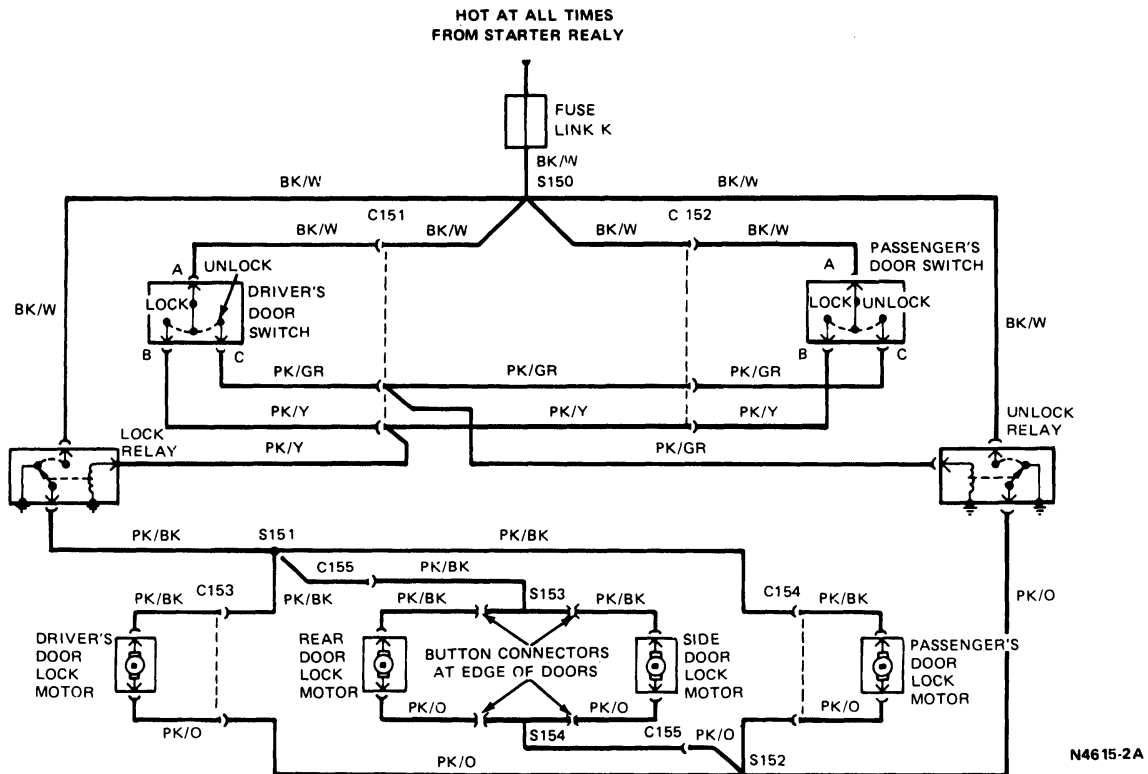

FIG. 2 Power Door Lock Electrical Schematic
Apply 12 volts directly to one terminal of the motor's (actuator) connector and ground the other terminal (Fig. 2). The motor (actuator) gear should finish its travel in less than one (1) second. Reverse the polarity for opposite travel.
between terminals A and C with the switch held in the up (unlock) position (Fig. 2).